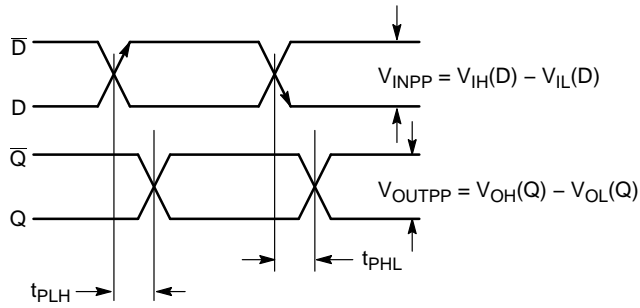

Figure 14. AC Reference Measurement
25. $t_{SKEW} = |t_{PLH} - t_{PHL}|$ for a nominal 50% differential clock input waveform. See Figure 14.
29. $t_{SKEW} = |t_{PLH} - t_{PHL}|$ for a nominal 50% differential clock input waveform. See Figure 14.